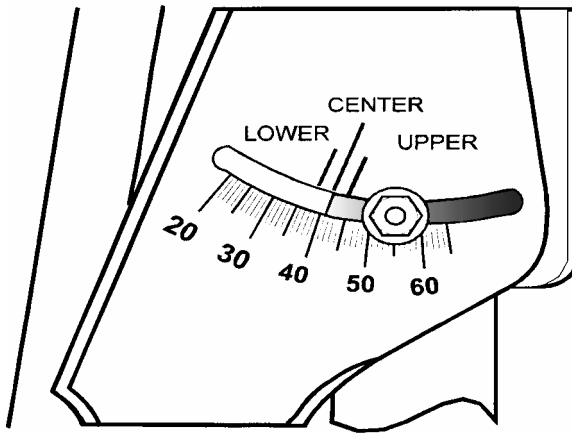

FIGURE 6-31 Illustration of how to make elevation adjustments with an audio tone.
- 8 While listening to the tone, lower the dish in 3-degree increments. Stop lowering the dish when the tone switches to the burst mode (lower-frequency tone for later model DSS IRDs). Mark that position on the elevation scale. Refer to drawing in Fig. 6-31.